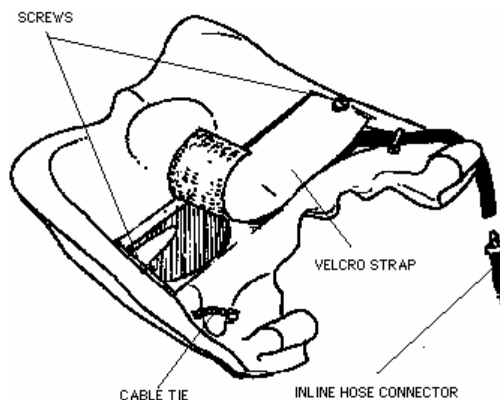

Fig. 1
- Remove screws that secure Velcro® strap. (Figure 1)